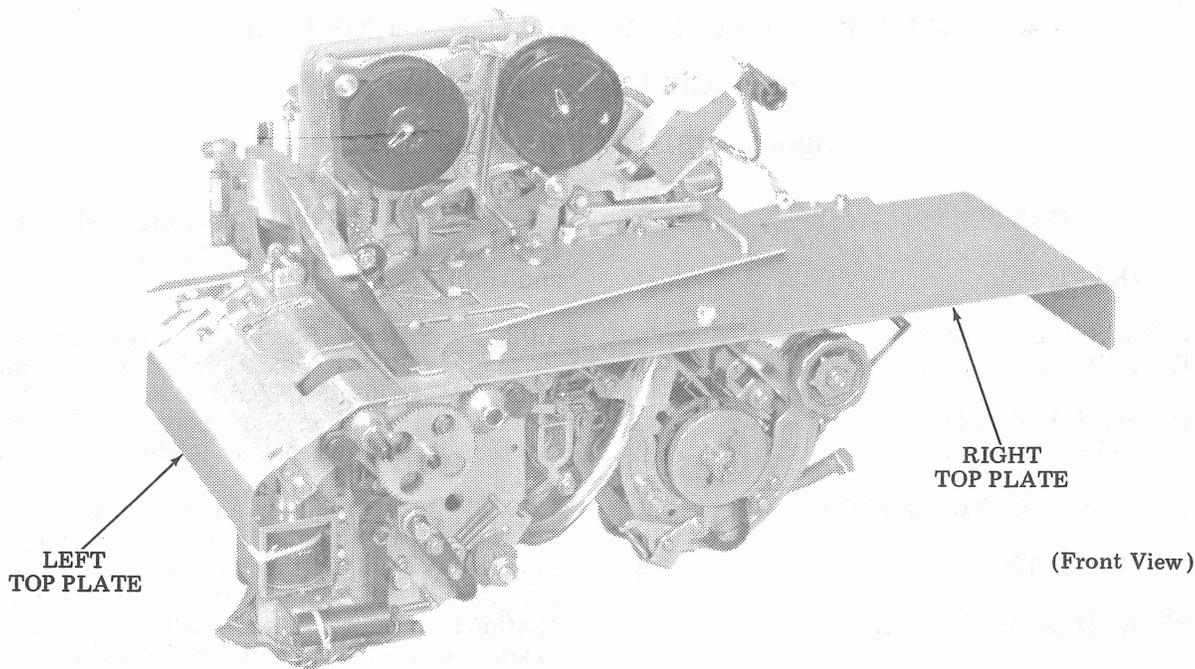

Figure 1 - 35 Edge Punched Card Typing Reperforator
Remove the right top plate assembly (Figure 1).
2.03 Remove the lid latchlever spring (TP91120) from the post on the back side of the punch assembly. Remove the center screw (TP152893) and lockwasher (TP3640) from under the tape lid torsion spring (TP309255). Remove screw (TP100759) from the front left corner of the left top plate. Remove the left top plate assembly (Figure 1).